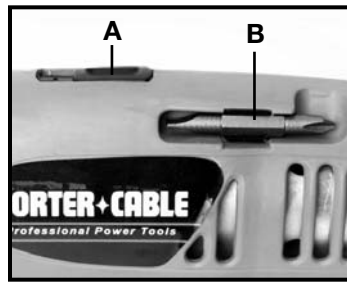

Fig. 4
The Models 877 and 887 Cordless Hammer Drill/Drivers have a two-speed gear shift which provides spindle speed ranges of approximately: 0 to 475 RPM (LOW) and 0 to 1450 RPM (HIGH) for Model 877; 0-500 RPM (LOW) and 0-1500 RPM (HIGH) for Model 887. To change speed ranges: release trigger switch to stop motor and then slide speed selector (A) Fig. 4, toward rear for HIGH speed or toward front for LOW speed.
Convenient storage areas with retaining clip (B) Fig. 4, for screwdriver bits are provided on each side of the tool.